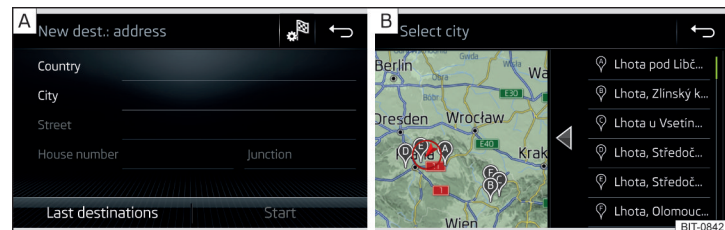

Fig. 227 Enter destination using the address: Main menu / List of visited destinations
- Enter the destination address and then confirm » Fig. 227 - **A**.
Depending on the number of places visited, a map with a list of visited places can be displayed automatically » Fig. 227 - **B**.